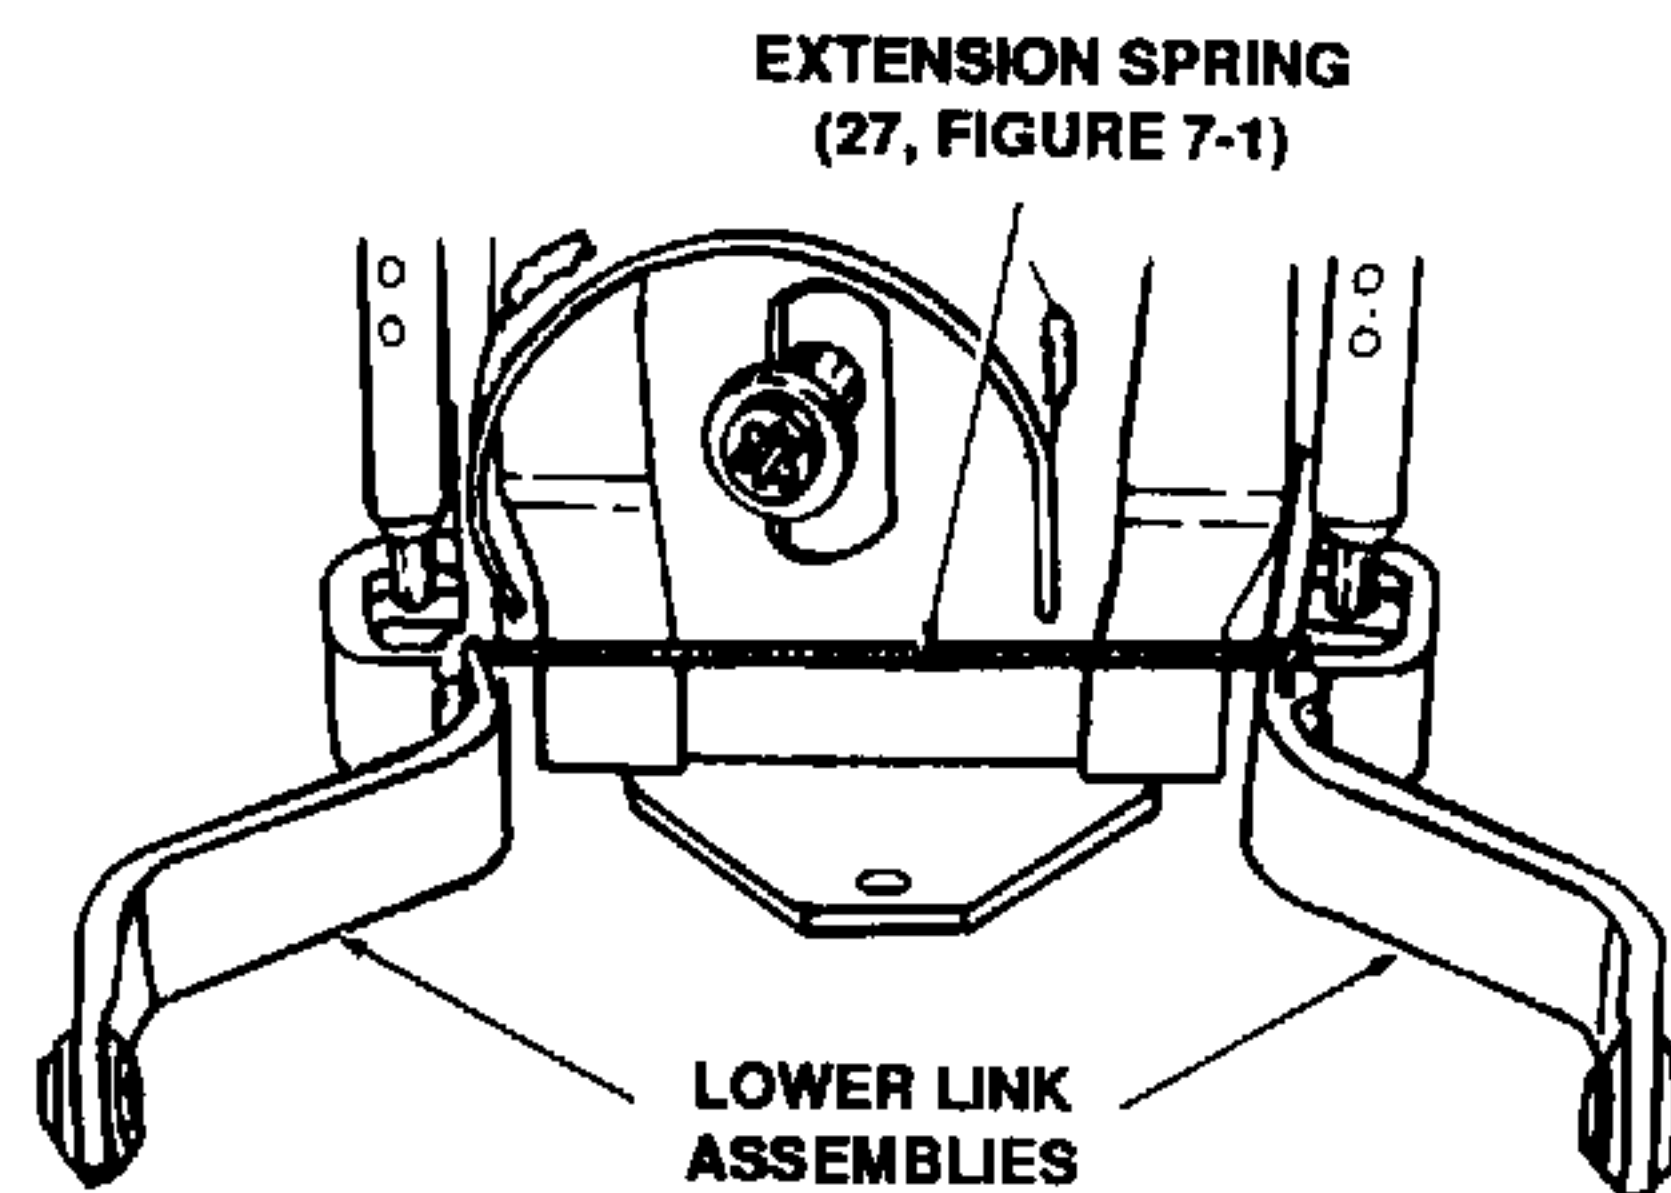

Figure 7-39. Securing Extension Spring to Lower Link Assemblies.
- b. Install 5/8 x 2-3/8-inch long clevis pin (20) and large hairpin cotter (22) on end of upper link assembly.
10. Secure extension spring (27) to each lower link. Refer to Figure 7-39.